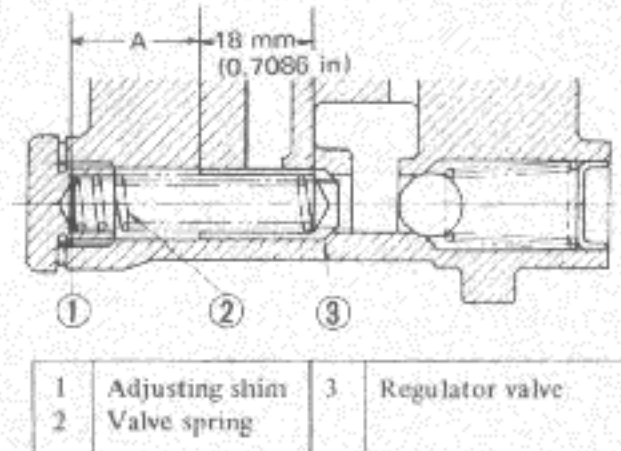

Fig. EL-4 Regulator valve
1. Insert valve in the body and measure the distance (A) from the valve end to the spring contacting face inside the plug. See Fig. EL-4.